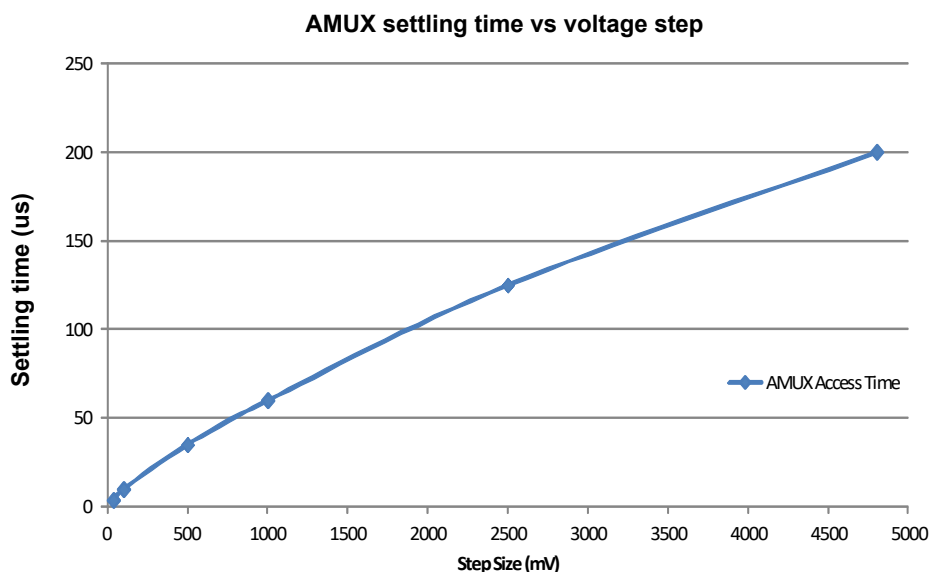

Figure 8. AMUX access time waveform
22. AMUX settling time to be within the 10 mV offset specification. $AMUX_{VALID}$ is dependent on the voltage step applied on the input SGx/SPx pin or the difference between the first and second channel selected as the multiplexed analog output. See Figure 8 for a typical AMUX access time VS voltage step waveform.